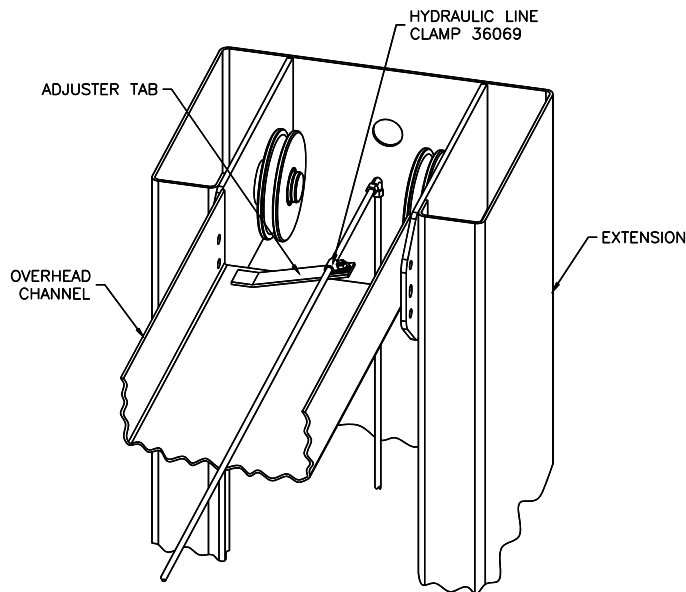

Figure 8 Idler Side
14. Connect the extension hydraulic lines to the cylinder lines in each column. Install the overhead line with a 90 degree elbow on the idler side and a tee on the power side (Fig. 8). Install the power unit line to the tee in the top of the power column and to the power unit outlet port. Make sure the cables clear during operation.